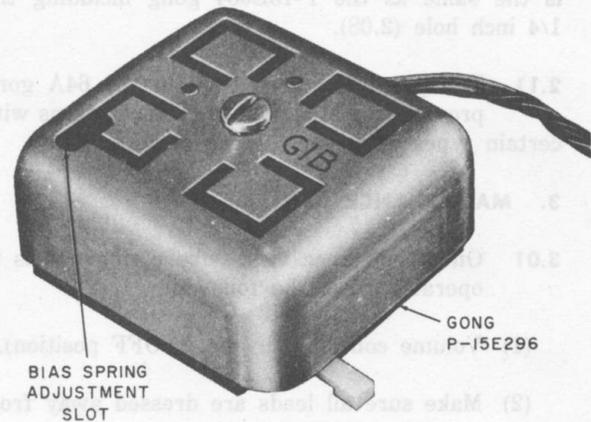

Fig. 4—G1B Ringer
2.06 The G1B ringer (Fig. 4) is the same as the G1A except for a minor change in the ringer size and the gong design.
2.09 The P-15E296 gong is slightly larger than the P-13E034 gong and has been perforated to improve ringing quality (Fig. 4).